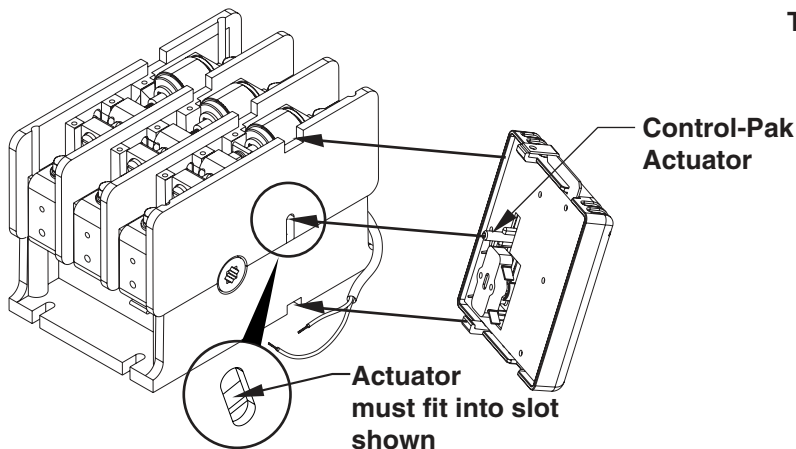

Figure 3E
8. Reinstall the Control-Pak (**Figures 3E & 3F**). First, insert the lower tab into the recess on the side of the contactor base. With proper installation, the Control-Pak Actuator will fit into the hole in the slot in the side of the contactor housing. Using a thin rod or flat blade, lift the Control-Pak Actuator up as necessary to insert it into the slot mentioned.
4. Reinstall the Control-Pak (**Figures 3E & 3F**). First, insert the lower tab into the recess on the side of the contactor base. With proper installation, the Control-Pak Actuator will fit into the hole in the slot in the side of the contactor housing. Using a thin rod or flat blade, lift the Control-Pak Actuator up as necessary to insert it into the slot mentioned.